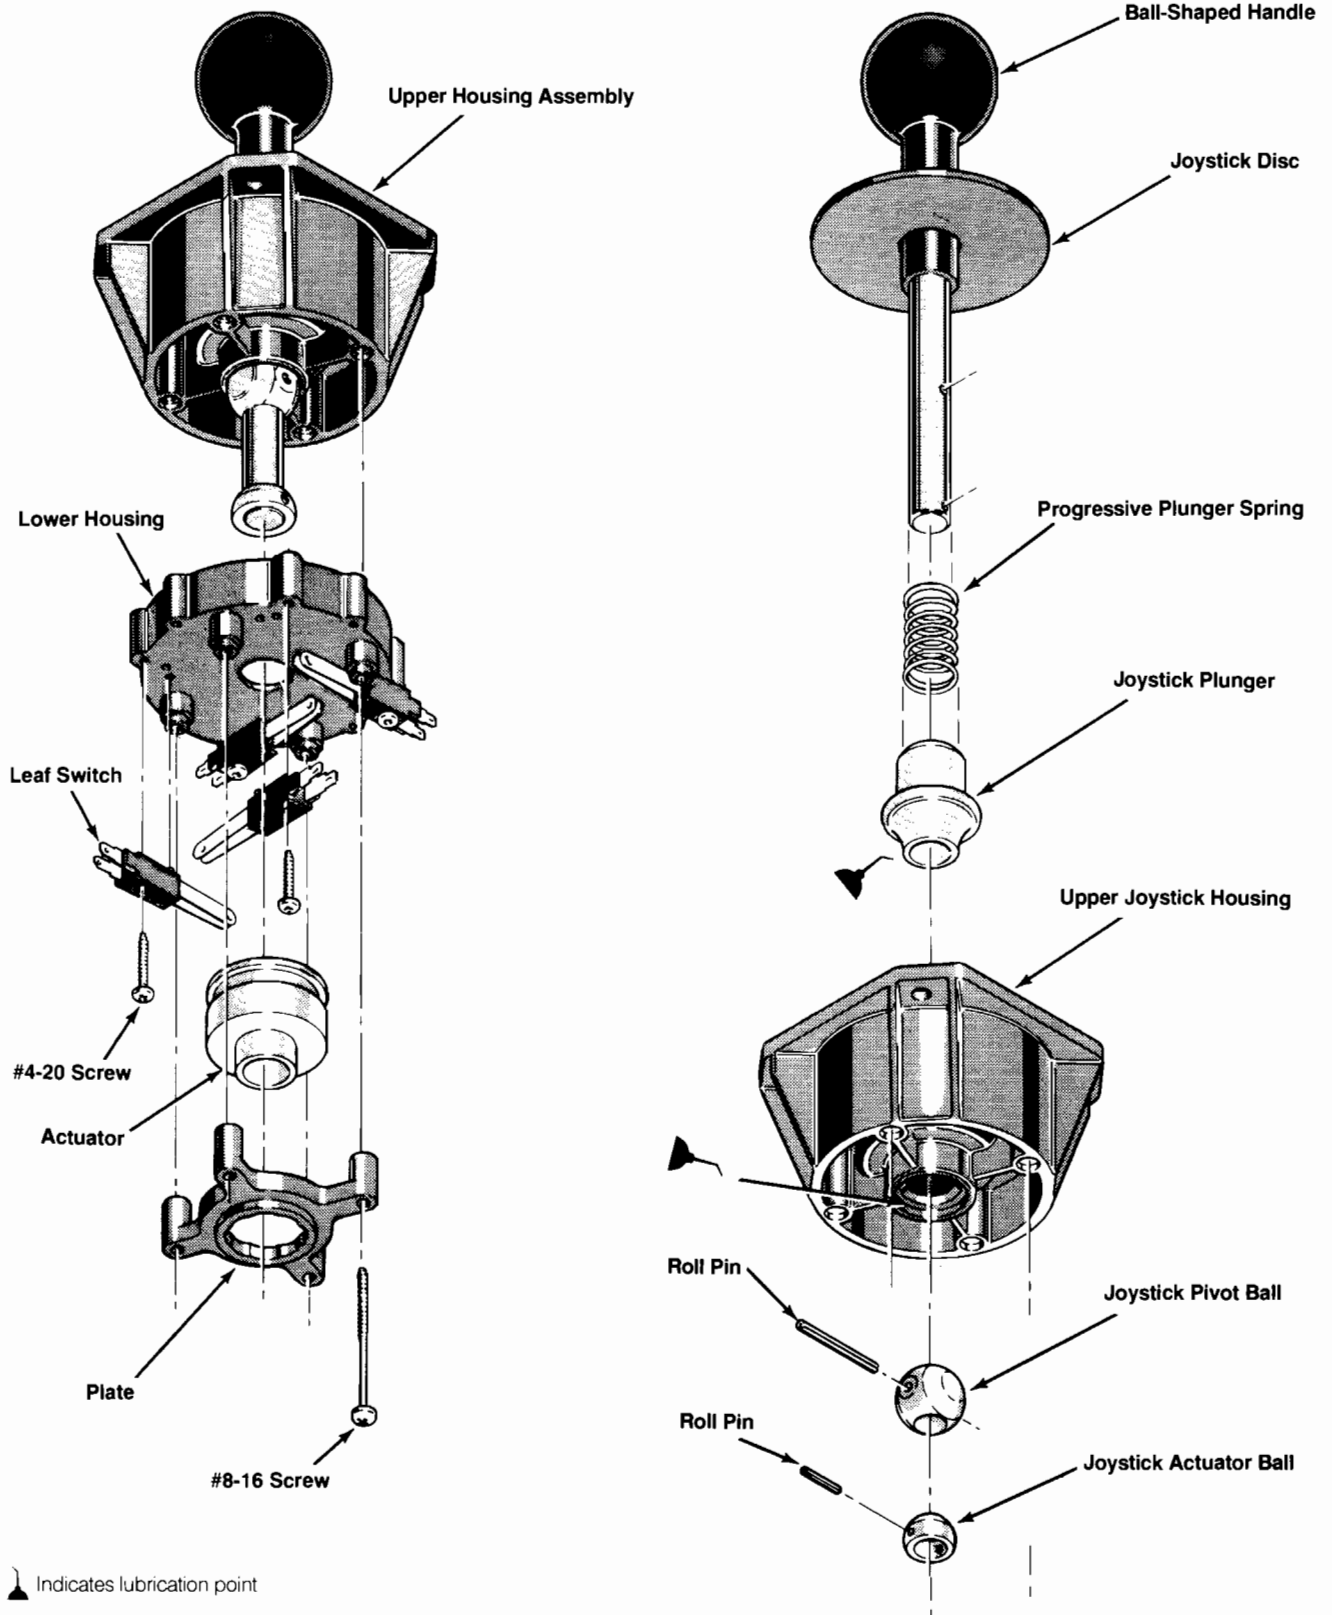

Figure 3-3 Joystick Disassembly and Lubrication
Perform the following procedure to disassemble/reassemble the joystick assembly (see Figure 3-3).
3. Push large end of plunger onto the shaft and over part of the larger spring (see Figure 3-3).